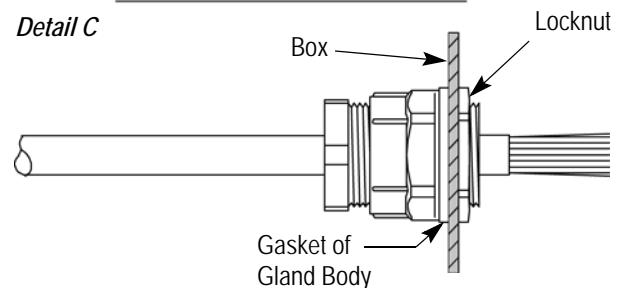

Figure 5
3. Remove the locknut from the cable gland, and set aside. Remove the compression ring, washer, and rubber bushing from the gland body. Refer to Figure 5, Detail A. Peel the layers from the inside of the rubber bushing until the inside diameter of the bushing corresponds with the outside diameter of the cable.
4. Slide the compression ring (threaded end facing stripped end of cable), washer, rubber bushing, and gland body (threaded end facing stripped end of cable) onto the cable until there is at least 9.52 [.375] of the cable jacket extending from the end of the gland body. See Figure 5, Detail B.
6. Feed the stripped end of the cable through the knockout opening until the gasket of the gland body is seated on the opening. Slide the locknut over the stripped end of the cable, and secure the locknut to the cable gland. See Figure 5, Detail C.